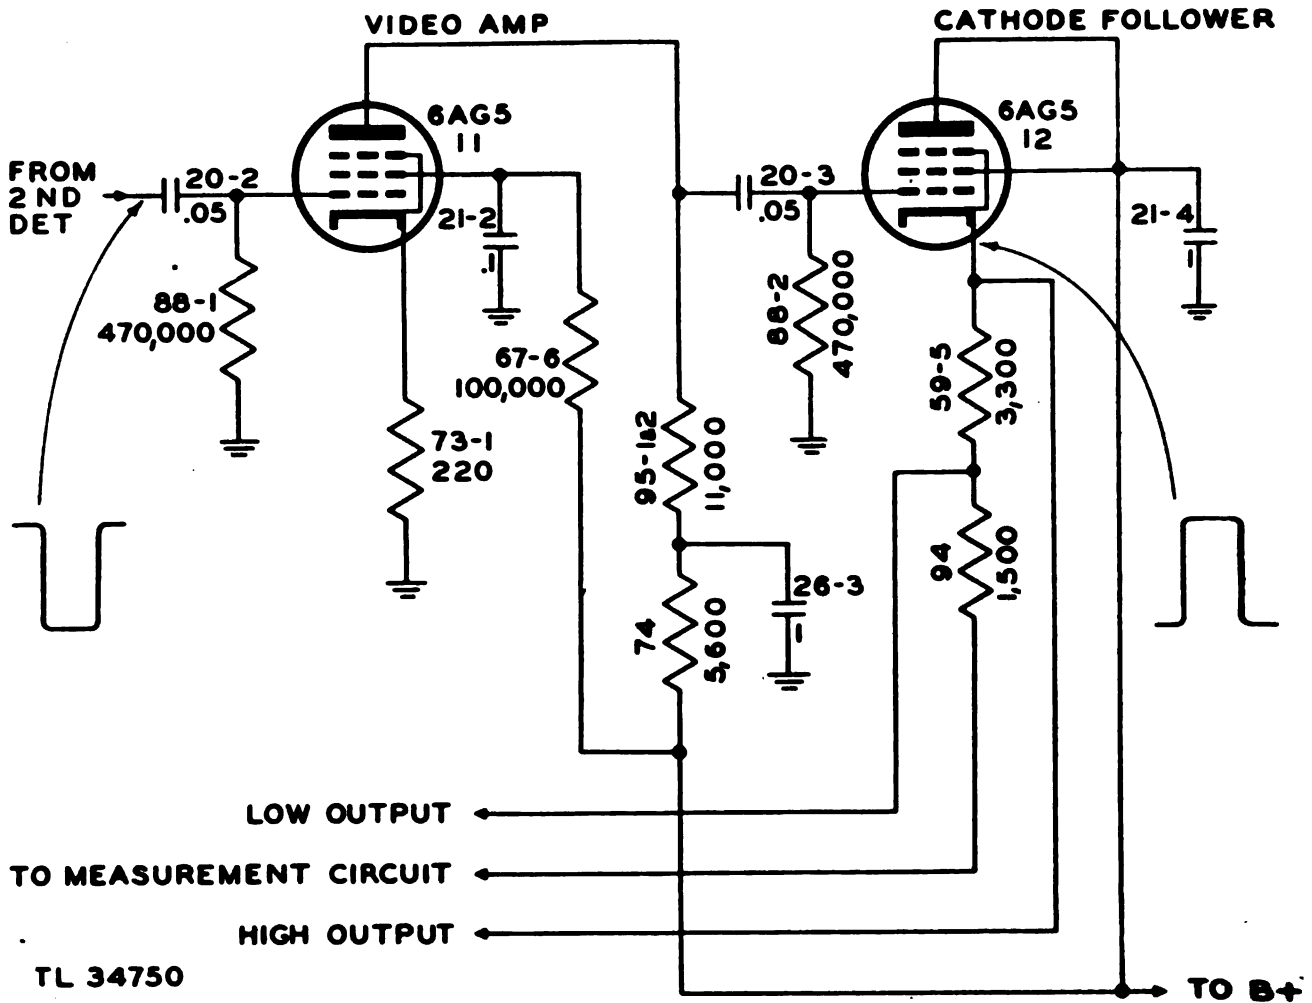

Figure 88. Video section, partial schematic.
a. The sharp negative pulse from one plate of the 2d detector is impressed on the grid of the video amplifier tube 6AG5(11) through coupling capacitor 20-2. (See fig. 88.) The leading and trailing edges of the pulse amplified by this video amplifier are very sharp. Consequently, the frequency response of the amplifier must be approximately 100 to 250,000 cycles per second.
b. The amplified positive pulse from the plate of the video amplifier is coupled to the control grid of the cathode follower tube 6AG5 (12) through coupling capacitor 20-3. Since a low output impedance is desired, the last stage of the receiver operates as a cathode-follower. The cathode load consists of two resistors, 94 and 59-5, so that two values of output impedance are available. The high output impedance signal is taken directly from the cathode of the cathode-follower tube, and the low output impedance signal is taken from the junction of resistor 94 and 59-5. (See fig. 88.) The output of the receiver consists of pulses of positive polarity.